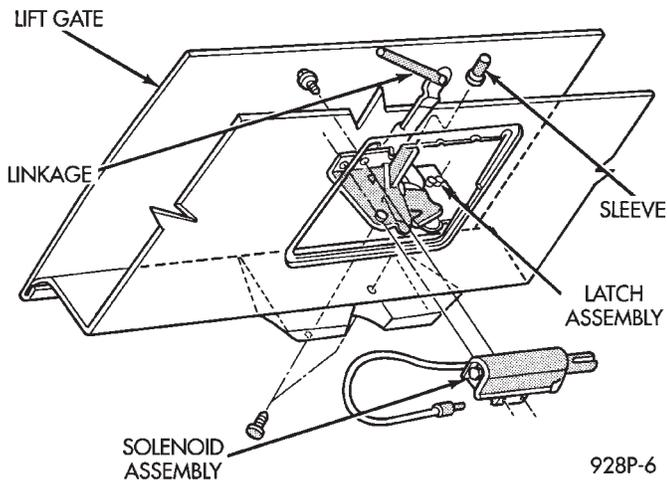

Fig. 4 Lift Gate Release Assembly
- (1) Confirm solenoid lead wire is connected and 10 volts or more are available at solenoid (Fig. 4).
- (2) Provide proper ground through latch mounting screws.